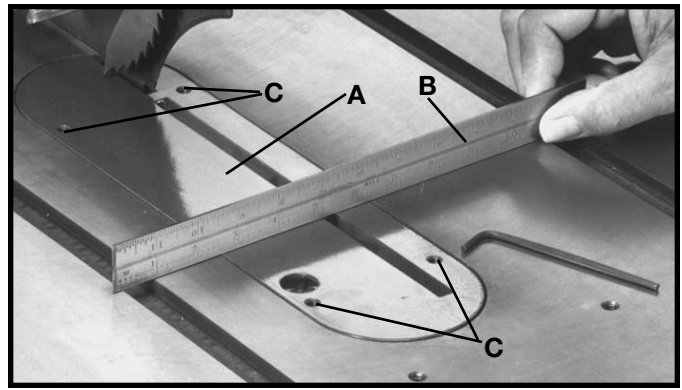

Fig. 126
Place a straight edge (B) across the table at both ends of the table insert as shown in Fig. 126. The table insert (A) should always be level with the table. If an adjustment is necessary, turn the adjusting screws (C), as needed with allen wrench supplied. **NOTE: THE MITER GAGE HANDLE CAN BE USED TO STORE THE ALLEN WRENCHES WHEN NOT IN USE. REMOVE THE TOP CAP OF THE MITER GAGE HANDLE FOR THE ALLEN WRENCH STORAGE COMPARTMENT.**